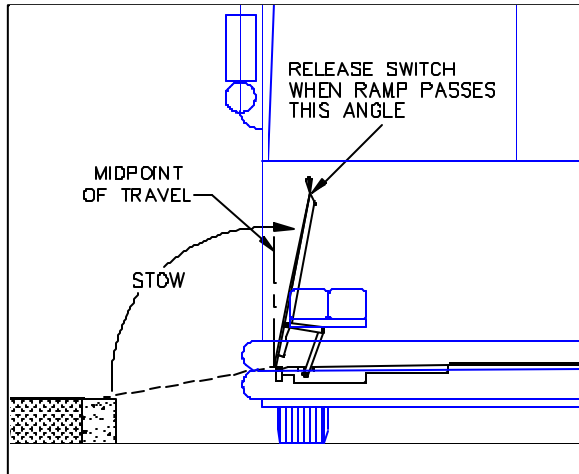

FIGURE 3-3: RAMP MIDPOINT DURING STOW
- 1) Refer to **Figure 3-3**. Move control switch to STOW position. Hold switch in STOW until ramp has passed its travel midpoint (vertical), then release switch. After ramp passes midpoint, it will continue folding to the stowed position without assistance.